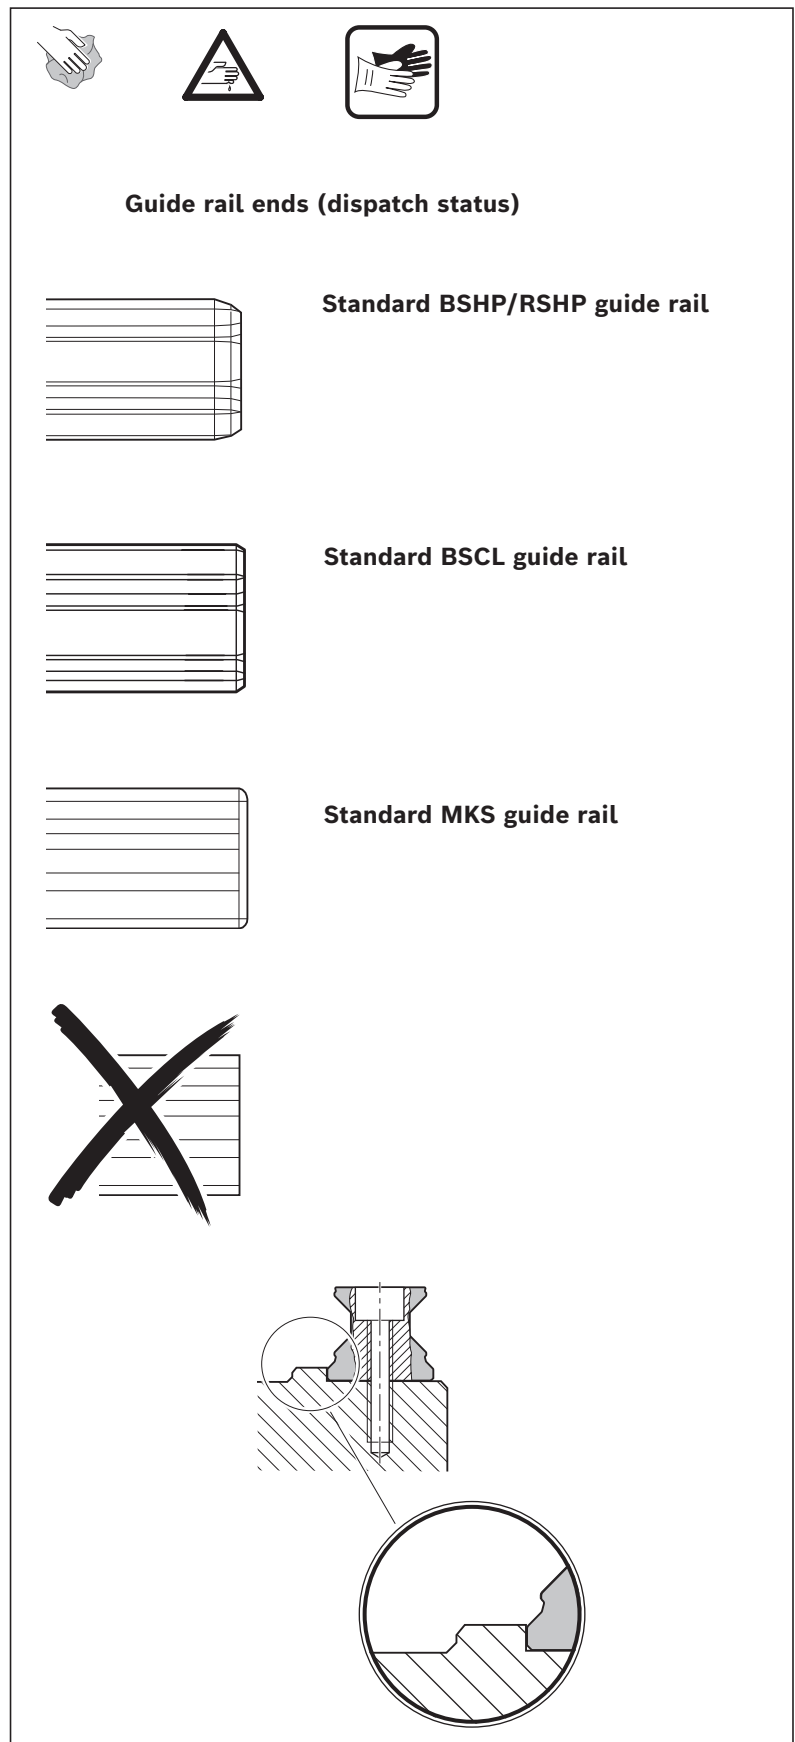

Fig. 11: Preparing the guide rails
- For deliveries of BSHP/RSHP guide rails in factory lengths/packaging units, the rail ends must be chamfered according to Fig. 11.